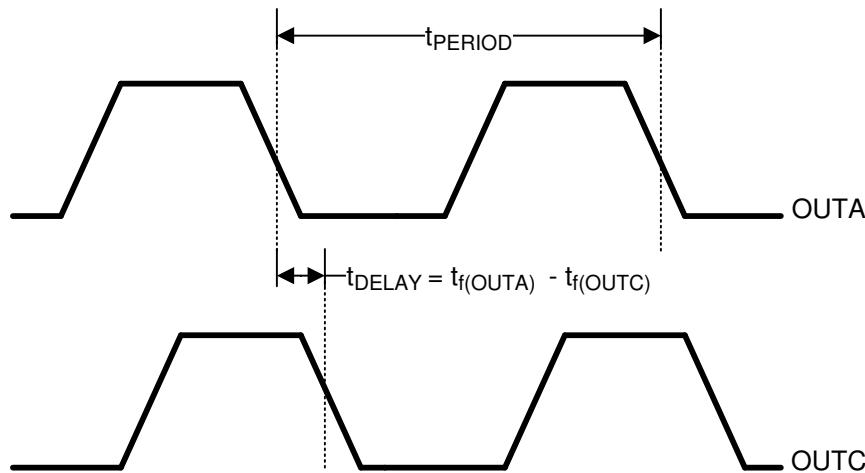
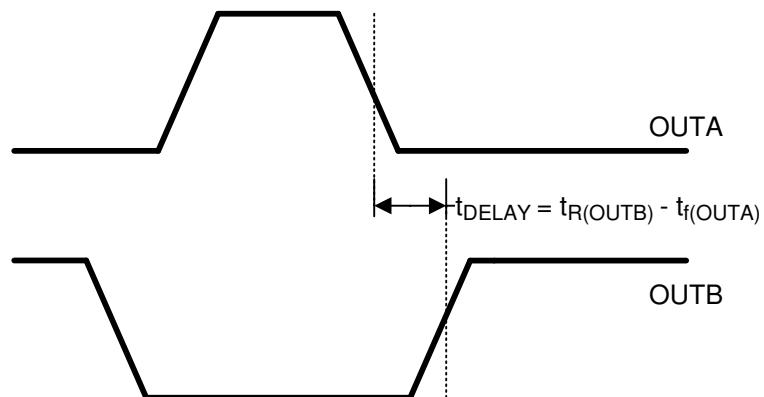

Figure 1. Same Applies to OUTB and OUTD
Figure 2. Same Applies to OUTC and OUTD
(2) Output delay is measured between OUTA and OUTB, or OUTC and OUTD. Output delay is defined as shown below where: $t_f(\text{OUTA})$ = falling edge of OUTA signal, $t_r(\text{OUTB})$ = rising edge of OUTB signal (see Figure 1 and Figure 2).